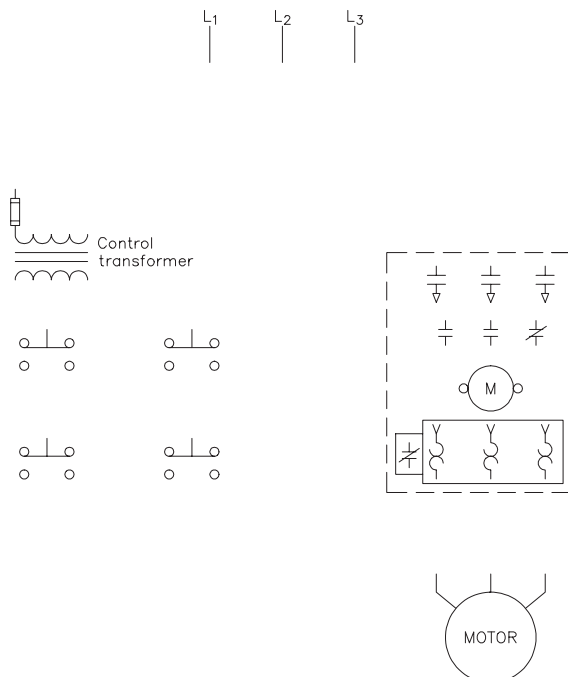
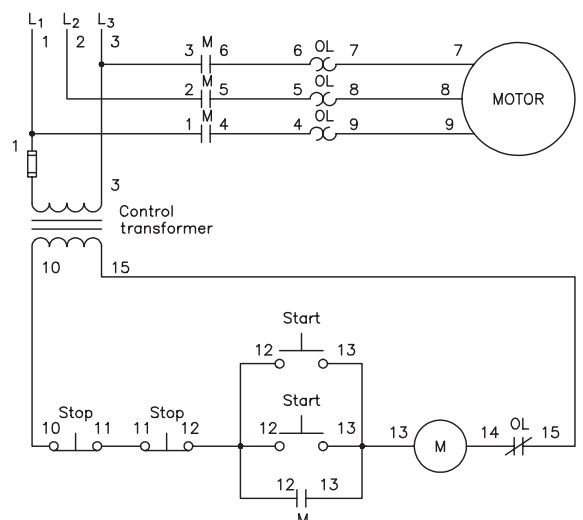
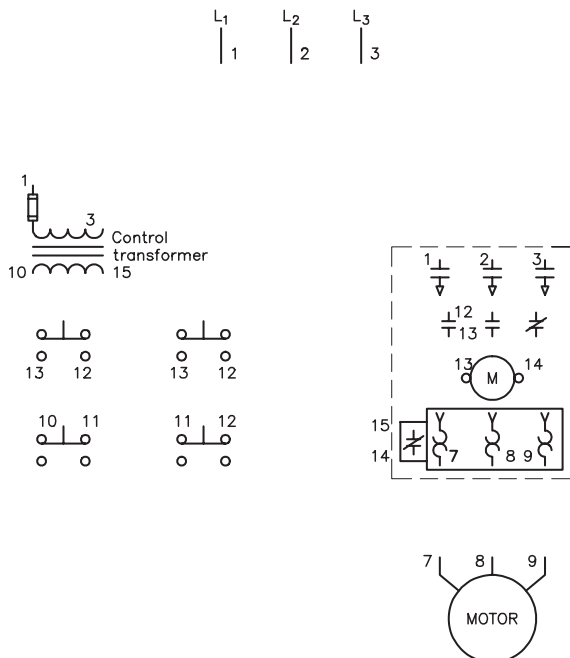

Figure 27-3 Components needed to produce a wiring diagram.
Figure 27-4 Numbering the schematic diagram.
Figure 27-5 Numbering the components.
Now that the circuit logic has been developed in the form of a schematic diagram, a wiring diagram will be drawn from the schematic. The components needed to connect this circuit are shown in Figure 27-3. Following the same procedure discussed in Experiment 1, wire numbers will be placed on the schematic diagram (Figure 27-4). After wire numbers are placed on the schematic, corresponding numbers will be placed on the control components (Figure 27-5).
- Using the schematic in Figure 27-4 or the diagram with numbered components in Figure 27-5, connect the circuit in the laboratory by connecting all like numbers together.